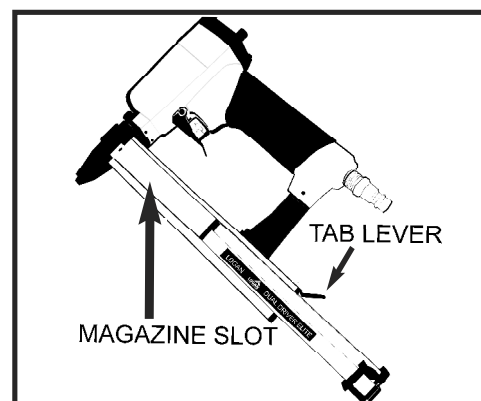

Fig 1
1. Use the metal tab lever at the rear of the magazine to release and open the magazine loading slot. (**Fig 1**)